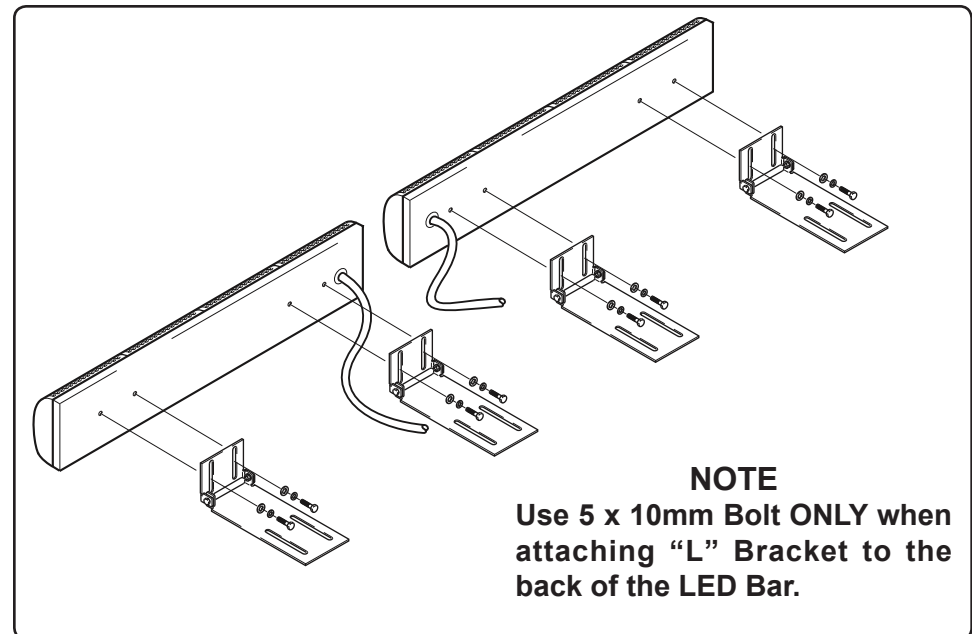

Figure 4. Light Bar Mounting
4. Turn the light bar right side up and attach the Split Arrow LED Traffic Master to its mounting bracket as shown in Figure 4. **Use ONLY 5 x 10mm bolts.**